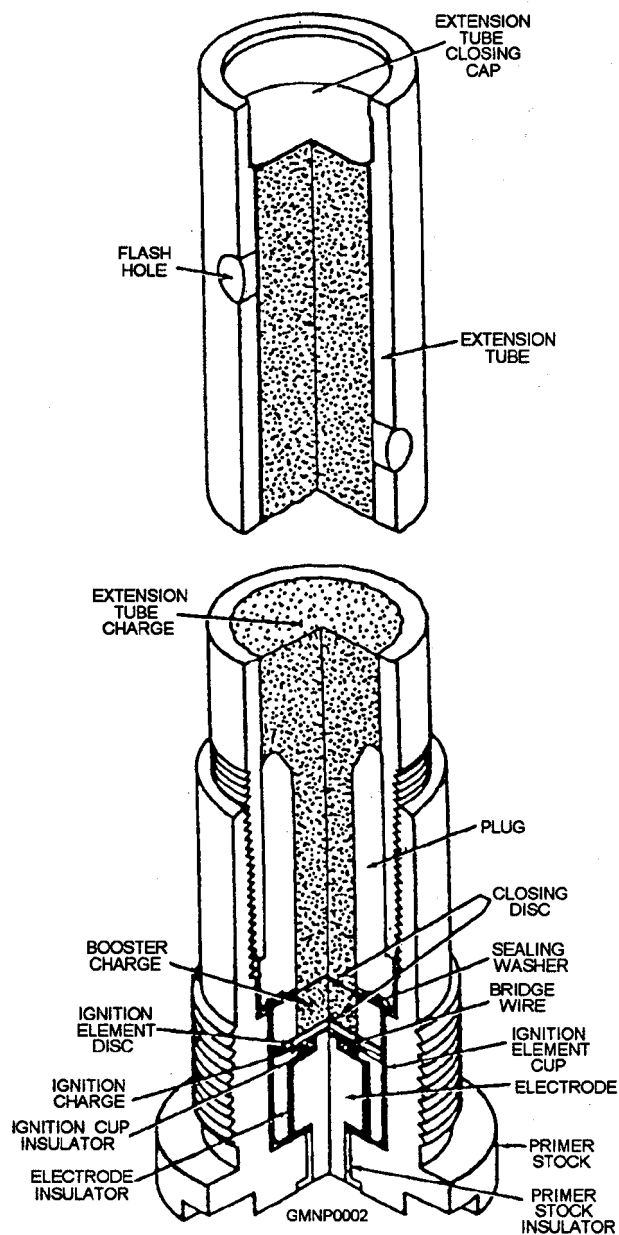

Figure 1-2.—Typical case electric primer.
The large quantity and relatively slow burning rate of gun propellant requires the use of another type of explosive train. The small flame produced by the initiating charge is insufficient to ignite the propellant grains thoroughly to produce an efficient burning rate of the entire charge. An explosive train consisting of an initiating charge, usually a mixture of lead styphnate and nitrocellulose (NC), detonates to ignite a small black powder booster which, in turn, ignites the larger black powder booster which, in turn, ignites the larger black powder booster. The black powder igniter is contained in the extension tube. Figure 1-2 shows a typical electric primer used in a propelling charge. The primer extension tube of a 5"/54 powder charge is approximately 20 inches long, contains 52 grams of black powder, and has 32 vent holes.